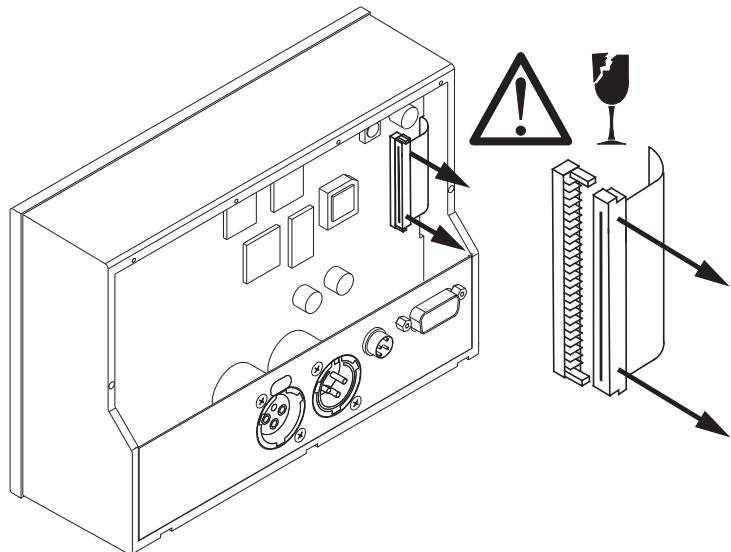

Fig. E 7-3: Loosen the connecting cable
2. Carefully remove the flat display connecting cable from the connector socket right above on the main pcb (A). Avoid damage of the flat cable and the connector. (Fig. E 7-3)